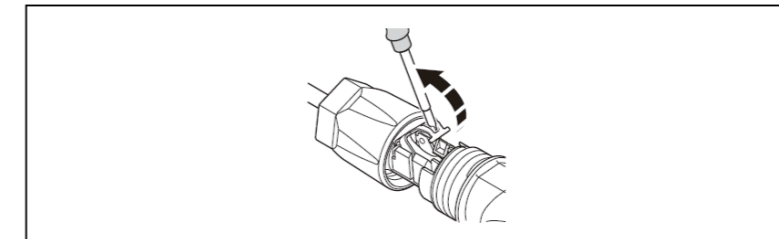

Figure 5-12
- 3) Open spring using a screwdriver (Figure 5-12) .